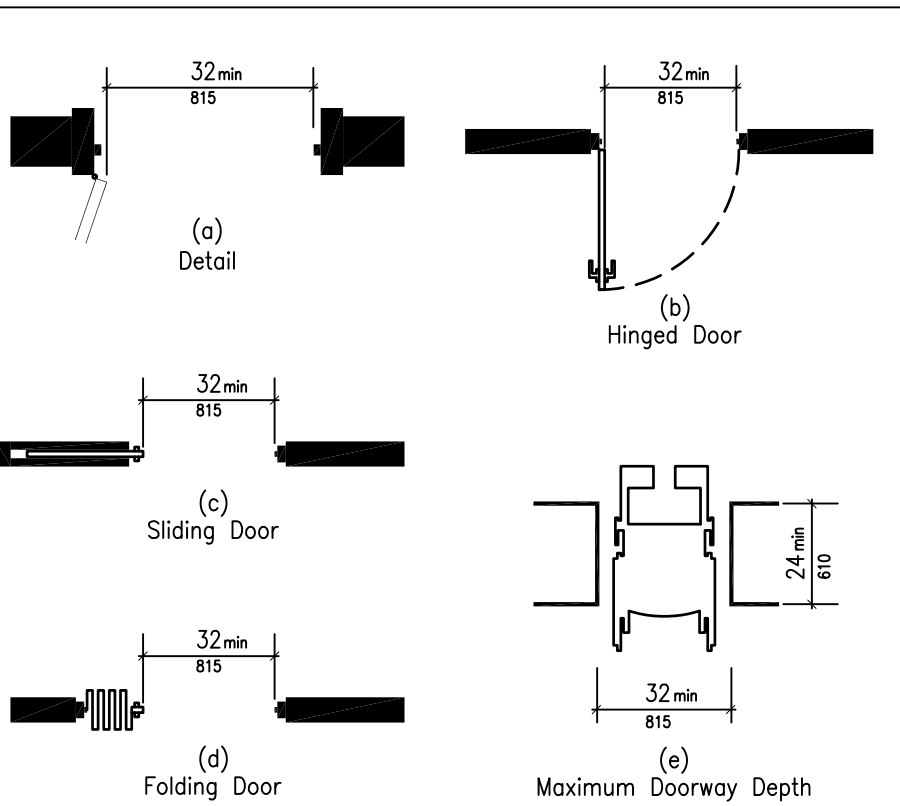

Fig 24
a. DOORWAYS SHALL HAVE A MINIMUM CLEAR OPENING OF 32" WITH THE DOOR OPEN 90 DEGREES MEASURED BETWEEN THE FACE OF THE DOOR AND THE STOP. FOR CLEARWAY WIDTH AND DEPTH SEE FIG. 24.